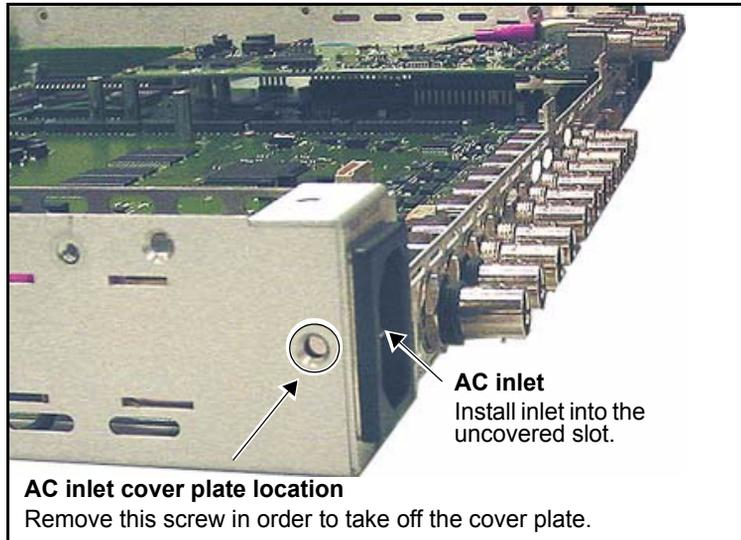

Figure C-33. Removing Cover Plate and Installing AC Inlet
6. Take off the AC inlet cover plate by removing the inlet cover screw on the chassis side, and then install the new AC inlet into the slot. (See Figure C-33 on page 297.)